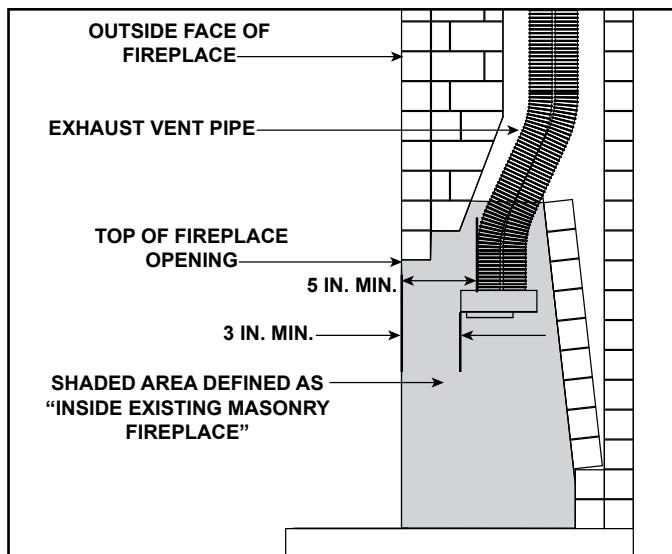
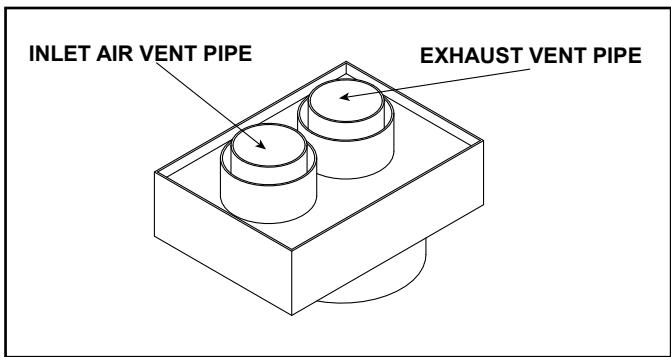

Figure 4.26 Existing Fireplace DV-46DVA-GCL Clearance Requirements
Figure 4.25. Coaxial/Colinear Appliance Connector
- The coaxial to colinear adapter (DV-46DVA-GCL) is approved for installations into solid fuel masonry or factory built fireplaces that have been installed in accordance with the National, Provincial, State and local building codes. Reference Table 1 for required parts. The DV-46DVA-GCL must be recessed into existing masonry fireplace. See Table 2 and Figure 4.25 and Figure 4.26.
The DV-46DVA-GCL adapter must be recessed into existing masonry fireplace. This measurement is taken from the top of the fireplace opening. See Table 4.2 and Figure 4.26.